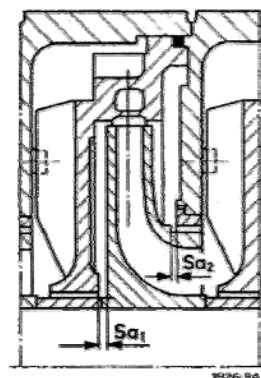

Figure 35 – Total axial clearance
6. Insert the diffuser (171.1) in the stage casing (108). Mount the stage casing on the suction casing (106). Mount the stage casings in the correct sequence.
8. After mounting each stage check the overall axial clearance $Sa1 + Sa2$ of the impeller (min. 5 mm) (fig. 35).